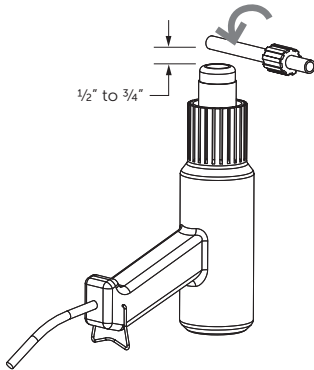

Figure 1.
1. Using an Entegris hot air gun, set the hot air gun on "high." Hold the PFA tubing ½" to ¾" above the heater and slowly rotate the tubing 360° for two minutes or until a fine, clear line appears around the tubing. (See Figure 1).